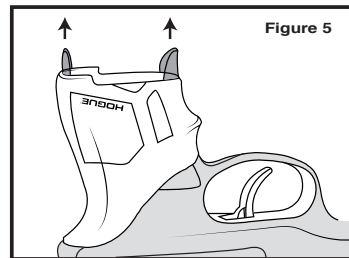

Figure 5
10. Once on the frame, use a pair of pliers to pull out the plastic (Do this before the lubricant dries) (Fig. 5). Rotate the grip until it lines up correctly. Reinsert magazine and check for clearance.